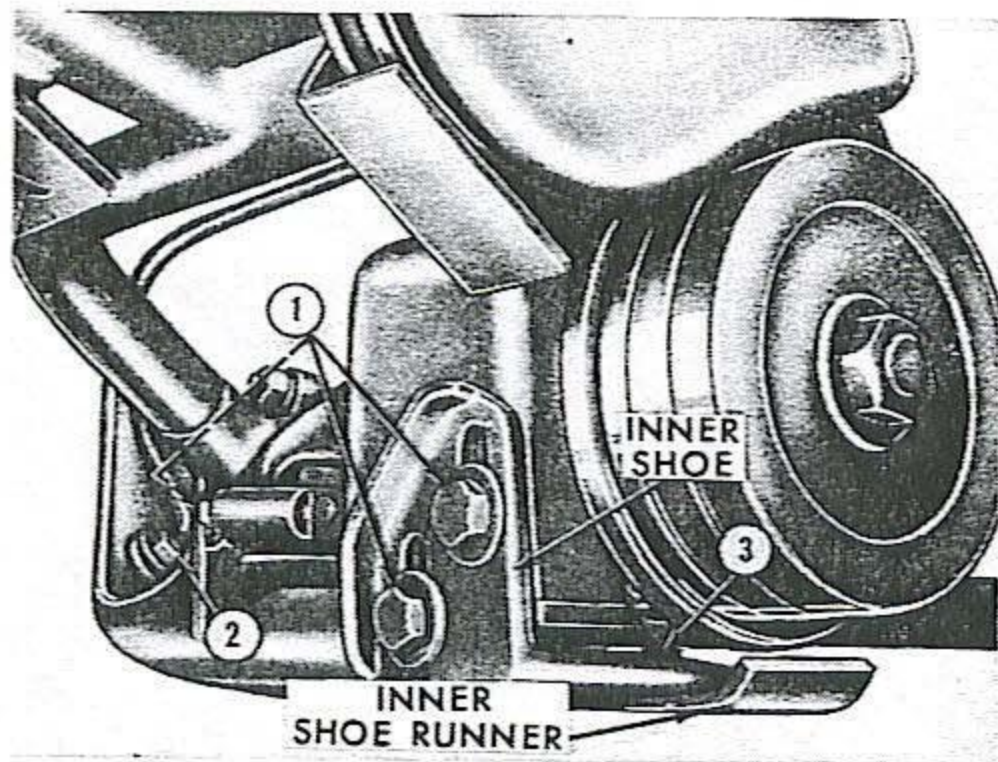

Figure 10
3. Loosen the lock nut (1), Figure 10, and adjust the